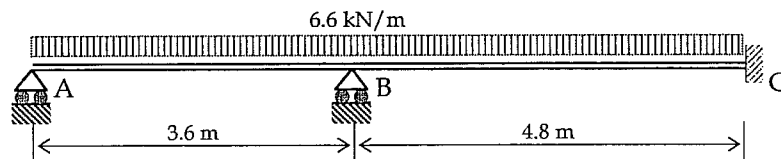

Fig. 1(b)
- Analyse the continuous beam shown in the Figure 1(b) below using Theorem of Three Moments and draw the Bending Moment diagram. (Support B sinks by 6.35 mm below the level of A & C, 'EI' is constant,  $E = 20 \text{ kN/mm}^2$ ,  $I = 33,200 \text{ cm}^4$ ).